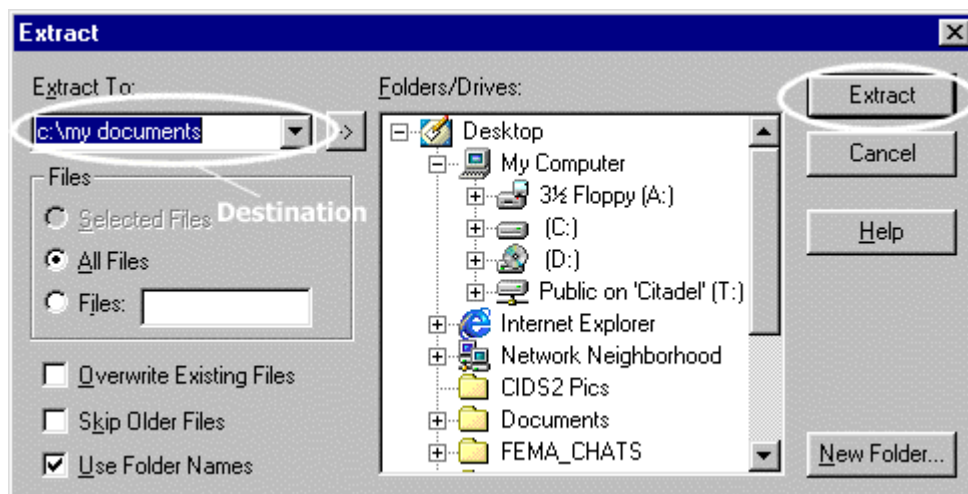

Figure 17 WinZip Extract
- To extract files from the compressed file, select all the files to be extracted (This is achieved by holding down the **Ctrl** button and clicking on the files). If all the files are to be extracted press the **Ctrl + /** buttons (the / is a slash). Next click on the **Extract** button. This will bring up a screen like Figure 17. Next type in the destination directory for the extracted files. Hit the **Extract** button on the Extract form.